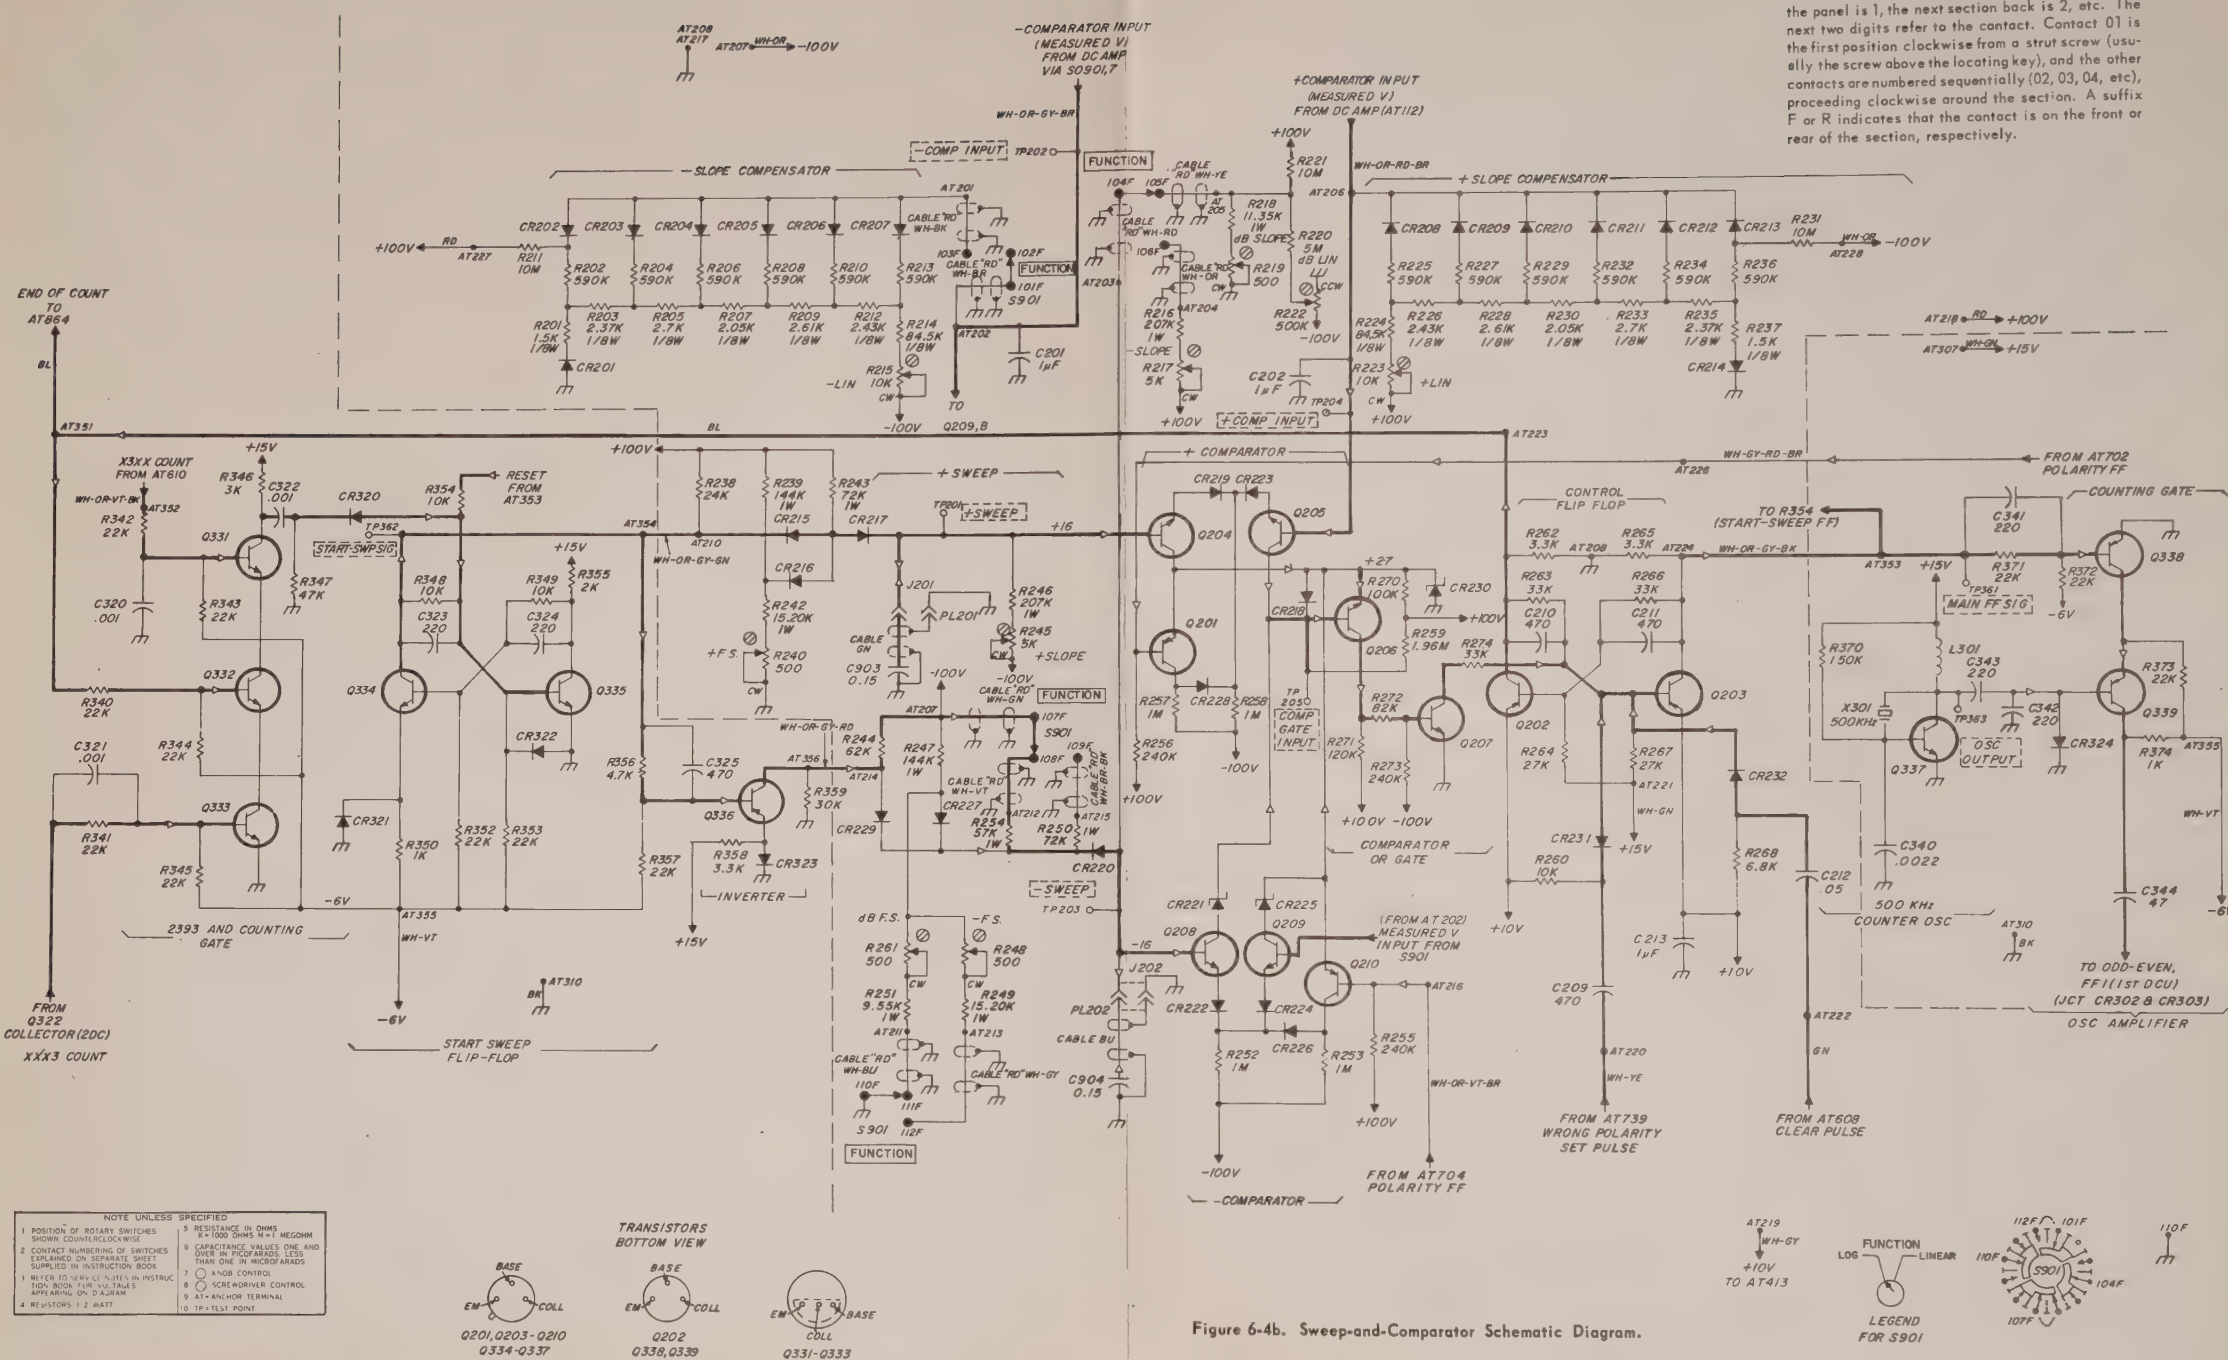

Figure 6-4b. Sweep-and-Comparator Schematic Diagram.
**Connections to these points are made via the FUNCTION switch, S901. Refer to the Sweep-and-Comparator circuit diagram (Figure 6-4b) to see the effects of the setting of S901 on these connections.